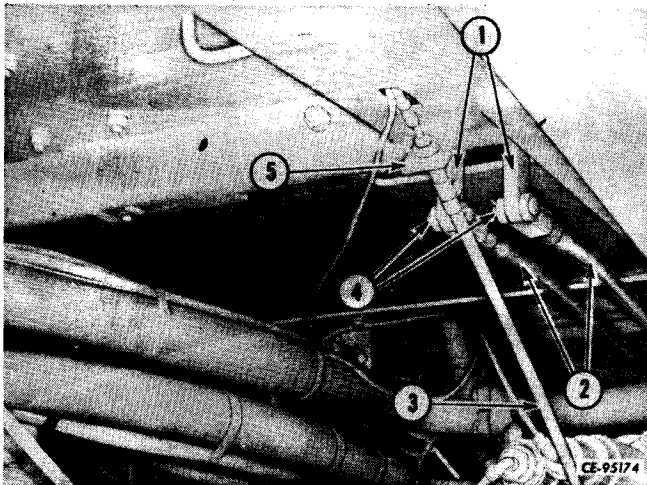

Figure 4-9
Remove the cotter pins and pins (4, Fig. 4-9) that connect the hydraulic control valve levers (1) to the control rods (2).